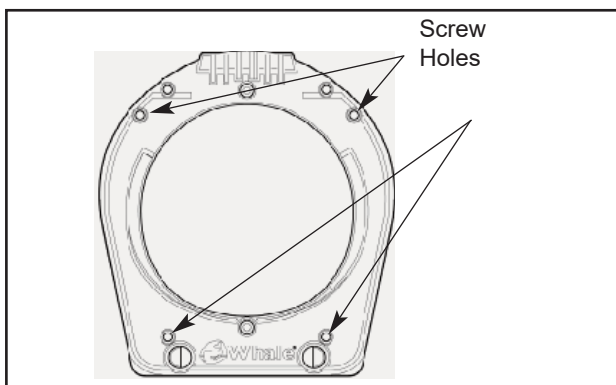

Fig.5 View Of Mounting Positions (Ommiting The Handle)
4. Open handle and mark the position of the 4 fixing screw holes on the bulkhead (see fig.5). **Note** – The pump **must be** installed using 4 screws.
2. Remove pump from bulkhead by removing mounting screws and disconnecting mounting wedge (see fig 5).